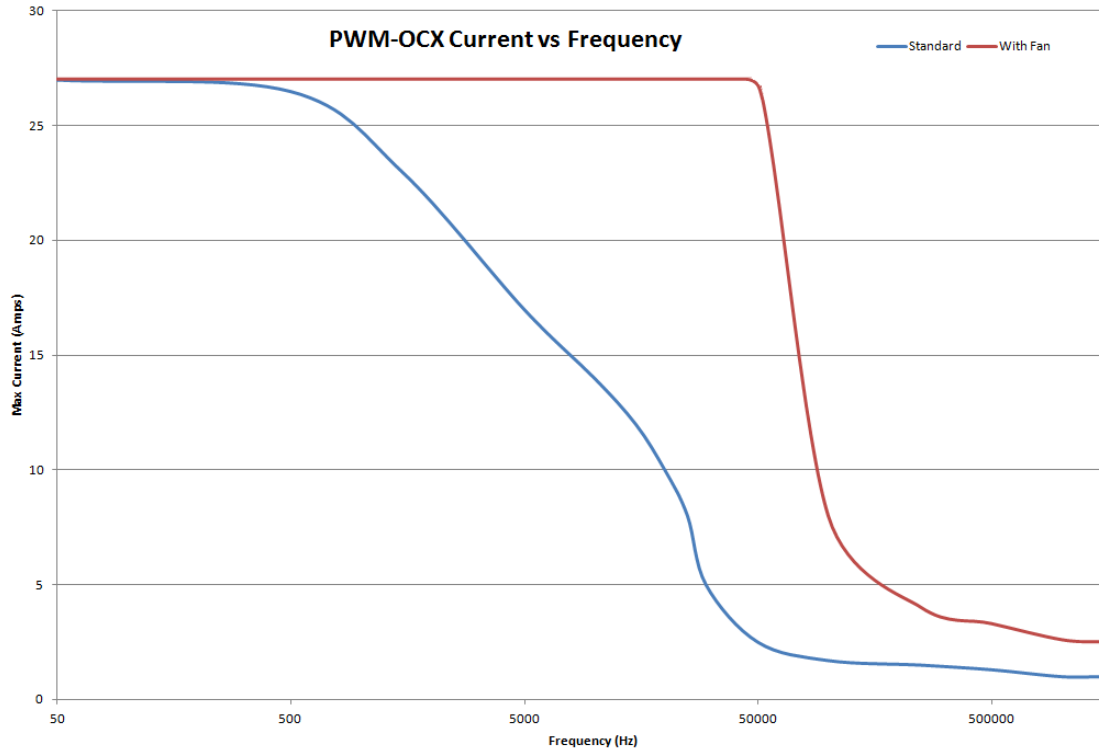

Fig0: PWM-OCX v2.2 Current vs. Frequency
* Max current varies with frequency due to switching losses. (See figure 0)
The power dissipated as heat in the main switching transistor can vary significantly with different loading conditions and control settings. The device will operate much more efficiently at lower frequencies (<10kHz) and will not heat up significantly. If you need to operate at higher frequencies, you should consult the graph in *figure 0* to see the sort of current you will be able to switch before the thermal protection will activate.
- Ensure an adequate power capacitor is fitted between V+ and GND if you are using a single power supply. *See Figure 0.*
By fitting different sized capacitors into the socket marked C1, a wide range of frequencies can be achieved. The table below gives some example values and the frequency range produced. You can use any other capacitance you desire to get other frequencies. Note that the values shown will allow the unit to oscillate above the specified frequency range, but these are for reference only. As the frequency increases, the output will become more rounded and the transistor may not switch fully on during each pulse. This can lead to excessive heating which could potentially damage the unit. Using the device above its rated top frequency is done at your own risk. See Fig0 for how frequency affects heating. If using a polarized capacitor check the markings on the PCB for the correct orientation.